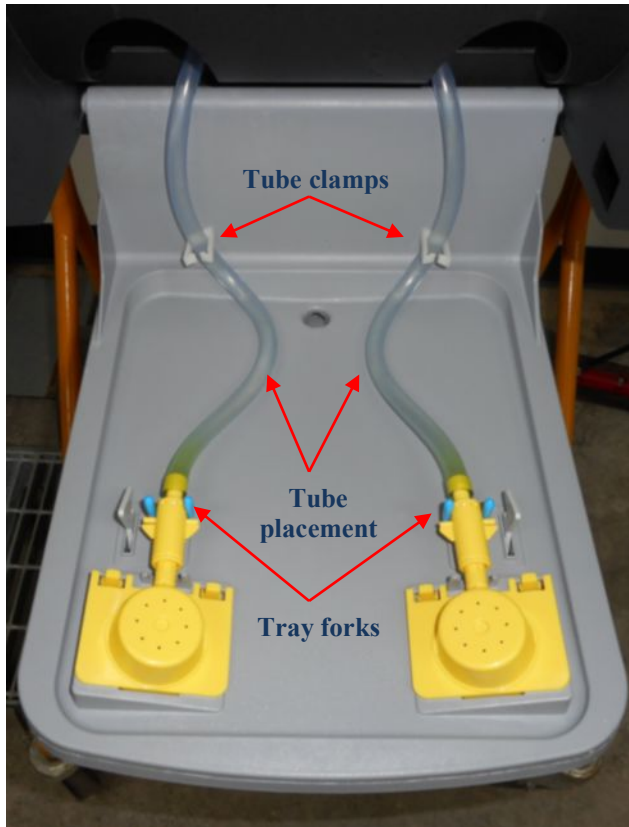

Figure 13a
- B. To ensure that there is no tension on the tubing, verify that the tubing is captured in the tube clamps and curved slightly inward between the tube clamps and the tray forks. (Ref Figure 13a)